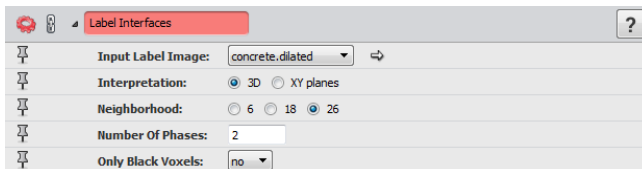

Figure 10.20: Default Parameter Settings of the *Label Interfaces* Module
8. Finally, contact points can be identified using a *Label Interfaces*. Attach a *Label Interfaces* module to the *convert.dilated* data and set the parameters as shown in Figure 10.20.